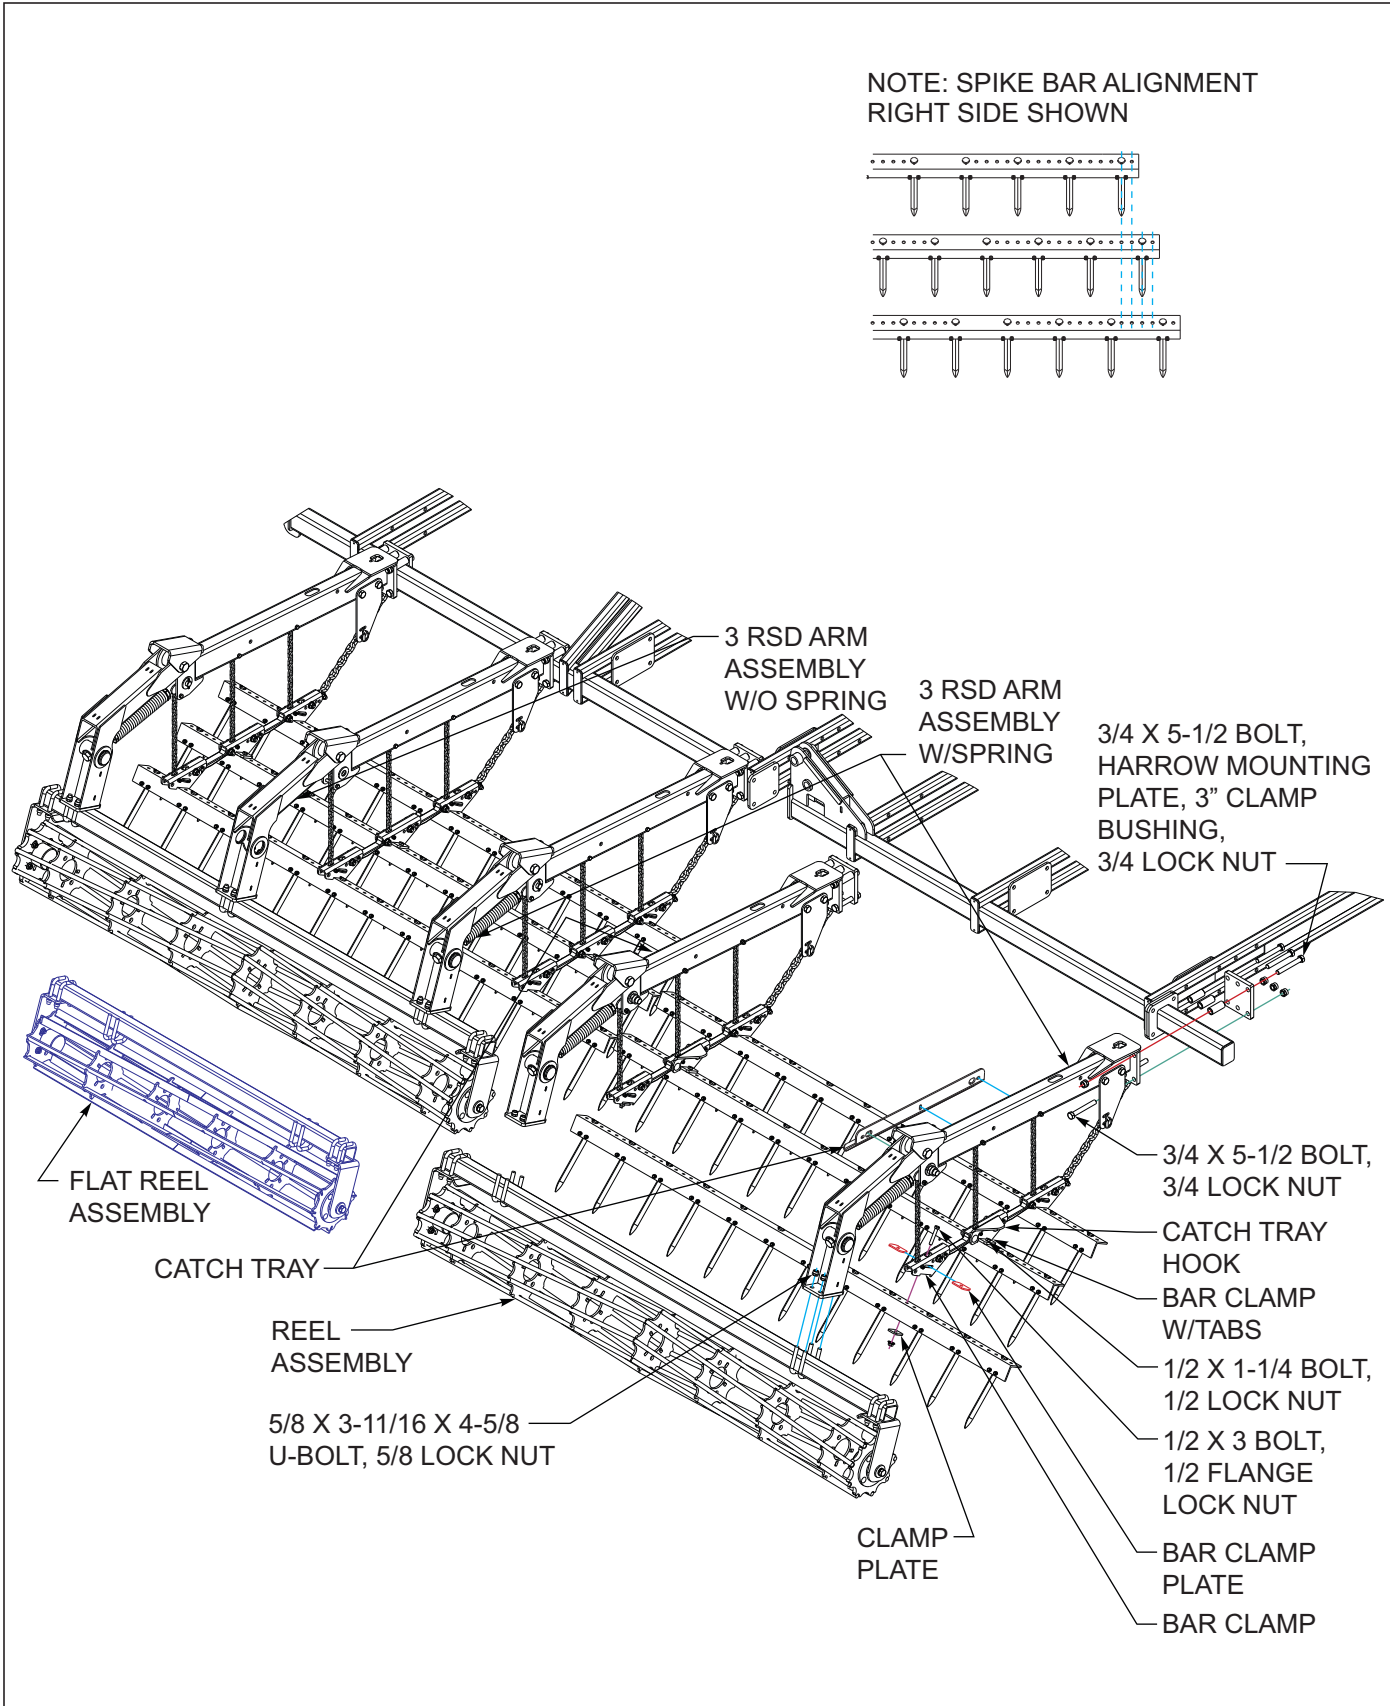

Figure 3-32: 3 Row Spike Harrow and Reel Installation
1. Attach the 3 RSD w/spring and 3 RSD w/o spring (**Models 9650FH-38'-42' only**) arm assemblies to the rear tube of the center and wing frames using harrow mounting plates, 3/4-10x5-1/2 hex screws, clamp bushings and 3/4-10 lock hex nut See Figure 3-32.
The harrow arms with the catch tray hooks are used on the outer wings with the catch tray hooks toward the outside of the machine and the catch trays toward the center of the machine. See Figures 2-43 - 2-54 for 3 Row Spike and Reel Harrow or See Figures 2-55 - 2-66 3RSD & flat reel and See Figures 3-32 for proper placement.
3. Refer to Note: spike bar alignment See Figures 3-32 for proper alignment of spike bar assemblies. Be sure they are aligned properly on both right and left side of each section.